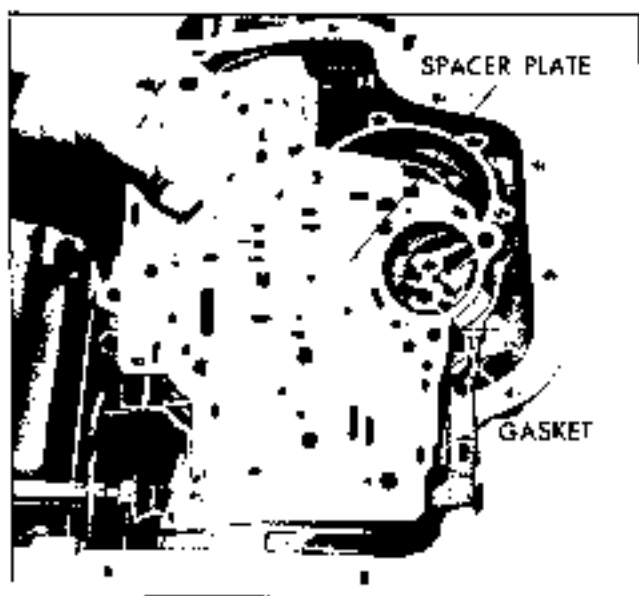

Fig. 7E-158 Installing Control Valve Spacer Plate and Gasket
6. Install six (6) check balls into transmission on case pockets (Fig. 7E-157).